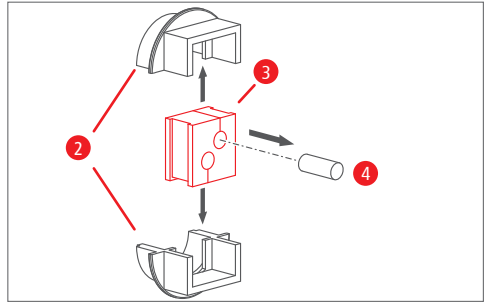

Fig. 4 Open cable gland
4. Remove the outer shells (2) of the cable gland (see Fig. 4)!
5. With the help of a screwdriver, separate the outer shells (2) of the cable gland (see Fig. 4)!
6. The rubber part (3) of the cable gland now be pushed out (see Fig. 4)!
7. Depending on the number of cables to be used, remove either one or both blind plugs (4) from the rubber part of the cable gland (see Fig. 4)!
9. Put the outer shells (2) of the cable gland back on (see Fig. 4)!